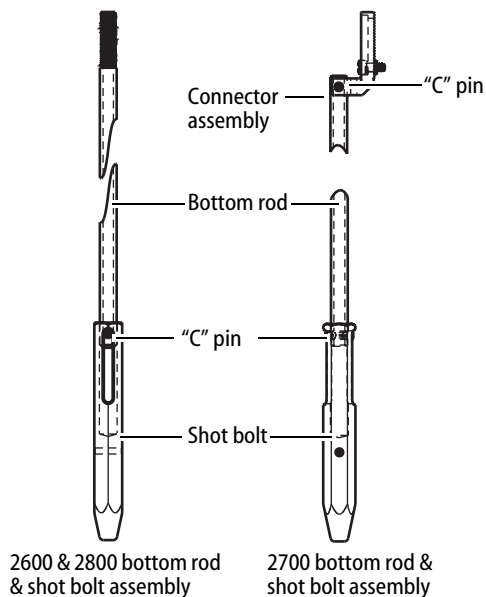

Figure 3 — Assembling the bottom rod to the shot bolt
- 1 Disassemble the standard bottom rod assembly by removing the C pin, used to hold the shot bolt. See Figure 3.
- 2 Reassemble the modified longer bottom rod as shown in Figure 3.
- 1 Disassemble the standard bottom rod assembly by removing the C pins, used to hold the shot bolt and connector assembly. See Figure 3.